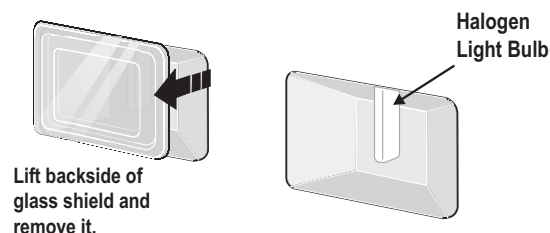

Figure 37: Light shield (L) and Halogen bulb (R)
2. To remove the glass shield, pull the back side of the shield toward the inside of the oven in a manner to lift it up from the oven side. The glass shield should come out easily by pushing a little toward front of the wall oven (See Figure 37).